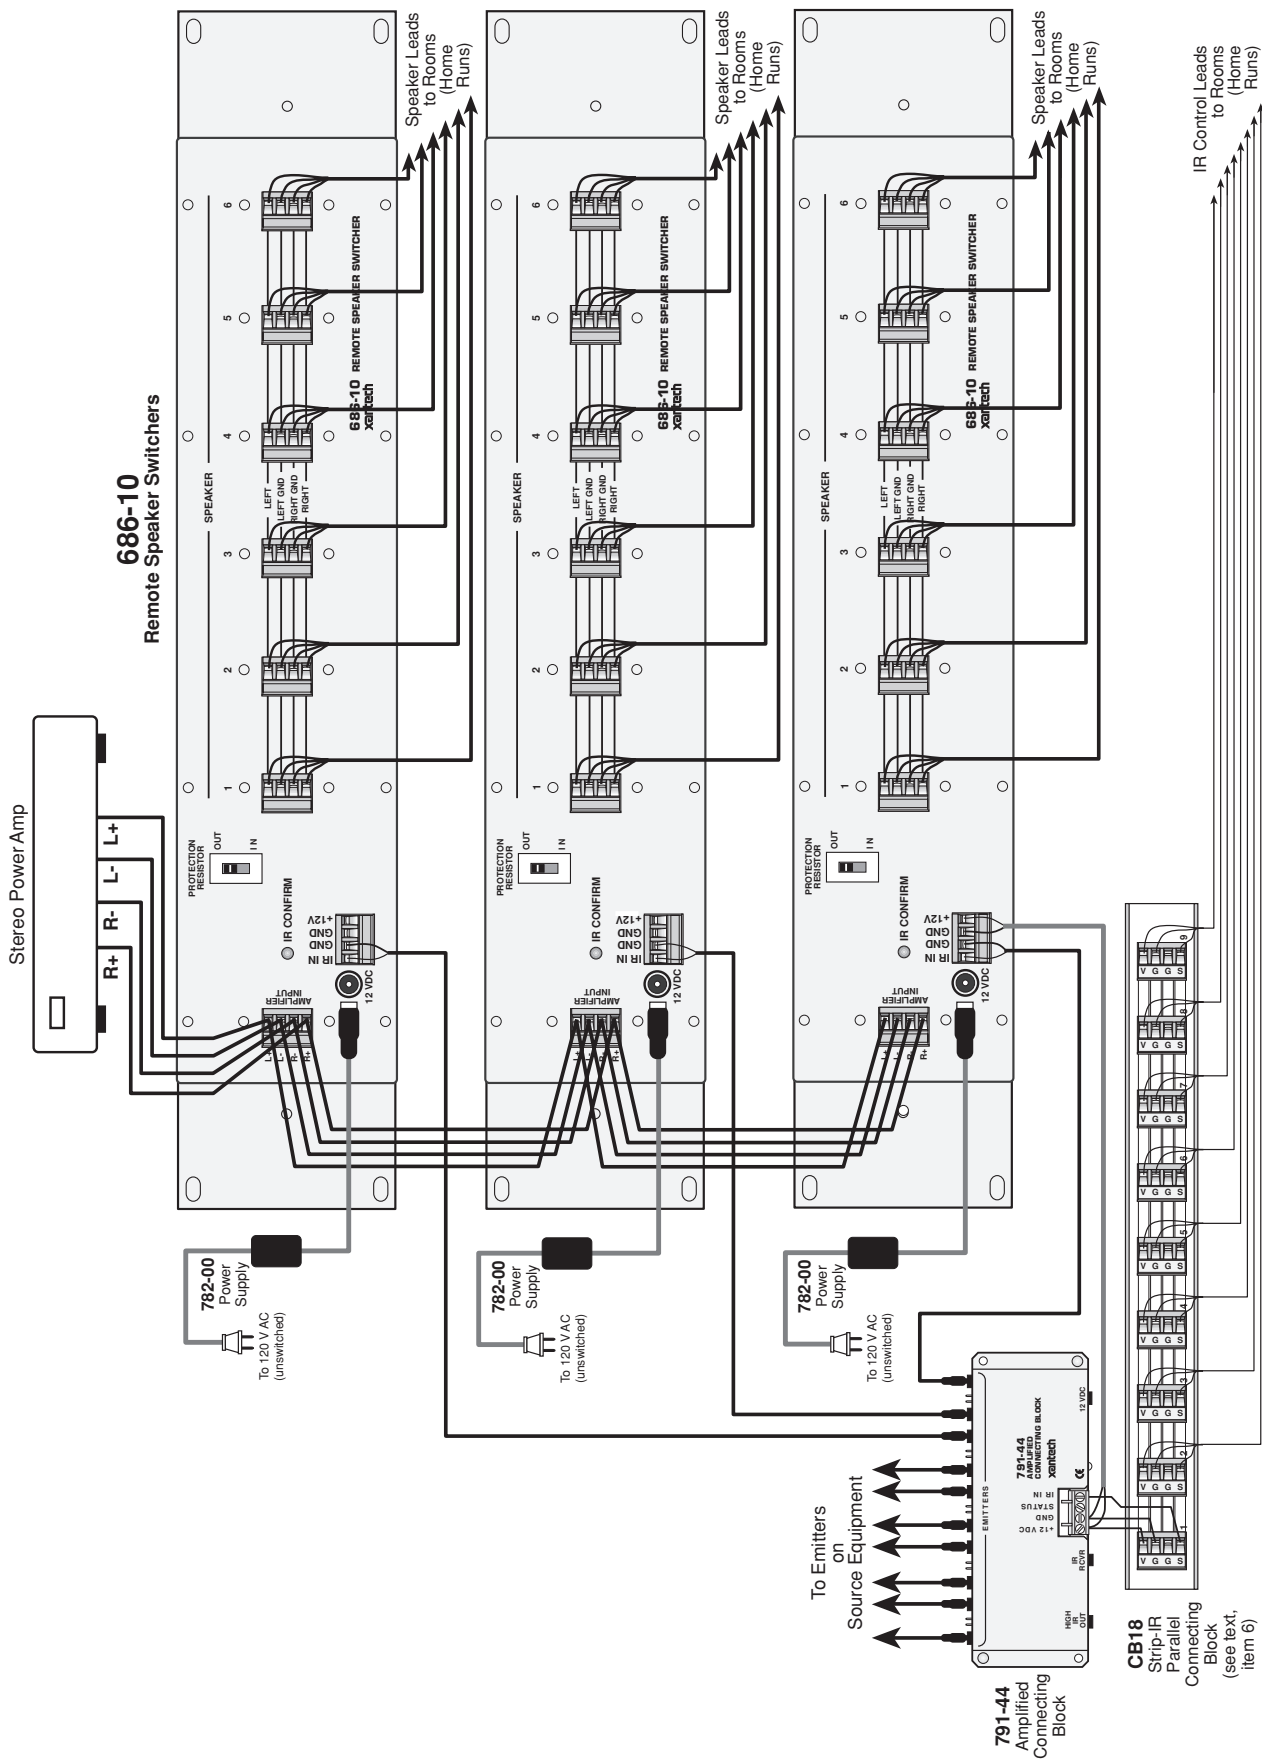

Fig. 4 Remote Speaker System Expansion with Multiple 686-10 Switchers
When the installation requires more than six sets of speaker pairs, two or more 686-10's may be connected as shown in **Fig. 4**.
2. **Fig. 4** drives 18 stereo pairs, reflecting an impedance of 3.56 Ohms to the power amplifier (assuming all speakers are 8 Ohms each and the 760's are all set to the 8X position). This is satisfactory provided the amplifier you are using is safe into 3.56 Ohms. If not, you may need to switch the PROTECTION RESISTOR to the **IN** position on one or more of the 686-10's, or use additional amplifier(s) to drive the 686-10's individually.
6. A CB18 Strip-IR Connecting Block is used in **Fig. 4** to make the parallel connections from the IR devices to the 791-44 Connecting Block. In this example, only 8 IR devices are shown connected to the CB18. You would actually have to "double-up" on each of these connections if you need IR control from all 18 rooms, or use an additional CB18.